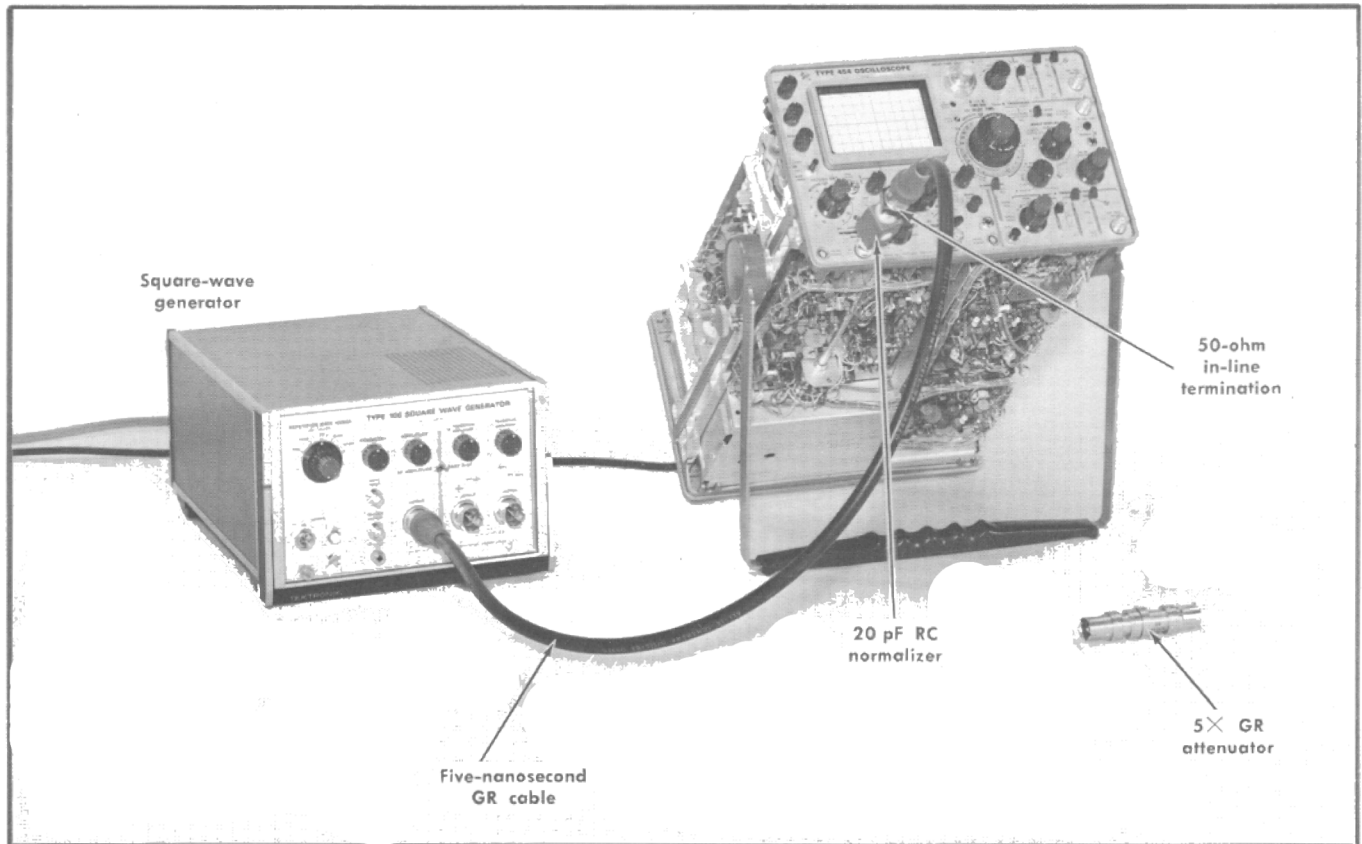

Fig. 6-22. Initial test equipment setup for steps 24 through 26.
24. Adjust Channel 1 Volts/Division Switch Compensation ❶
- a. Test equipment setup is shown in Fig. 6-22.